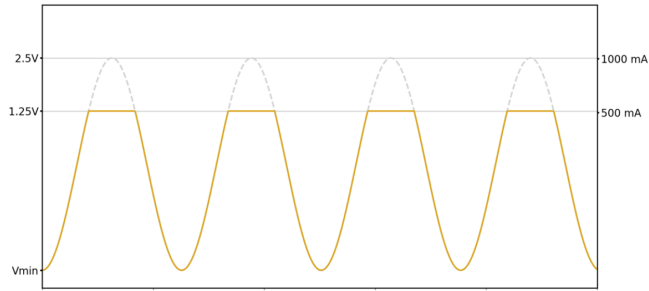

Figure 9.41: Cropped LED excitation signal
- **Custom** - this setting allows users to manually adjust the V_{max} and V_{min} of the LED, regardless of LED maximum current. Care should be taken to remain below the maximum voltage, or the excitation signal will be cropped at the true maximum value (see Fig. 9.41).